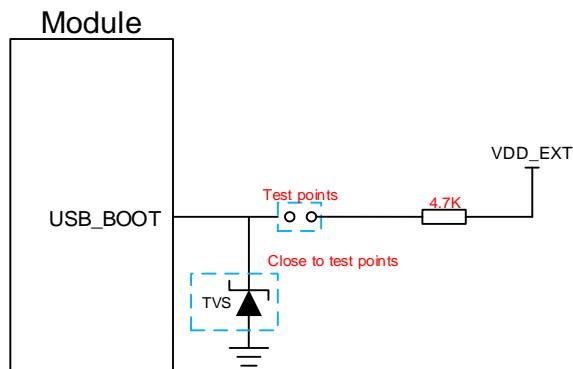

Figure 31: Reference Circuit of USB\_BOOT Interface
2. When using MCU to control module to enter the emergency download mode, please follow the above timing sequence. It is not recommended to pull up USB\_BOOT to 1.8V before powering up VBAT. Connect the test points as shown in **Figure 31** can manually force the module to enter download mode.